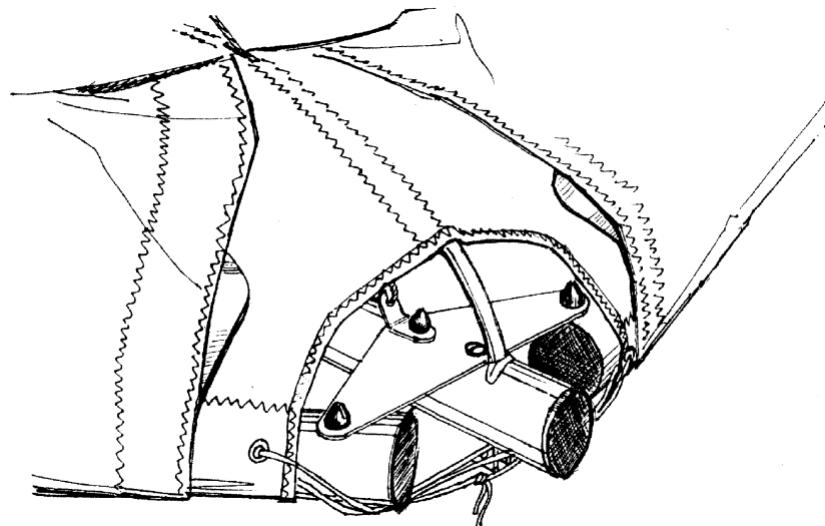

Fig. 13
2.1.13. Put the top front wire through the corresponding hole at the nose of the sail. Put the tightening rope of the nose of the sail under the front end of the keel tube (Fig. 13).